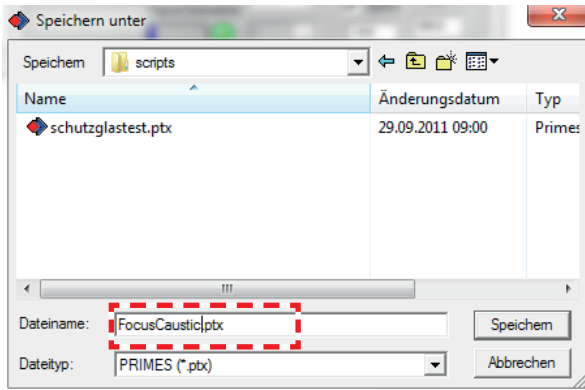
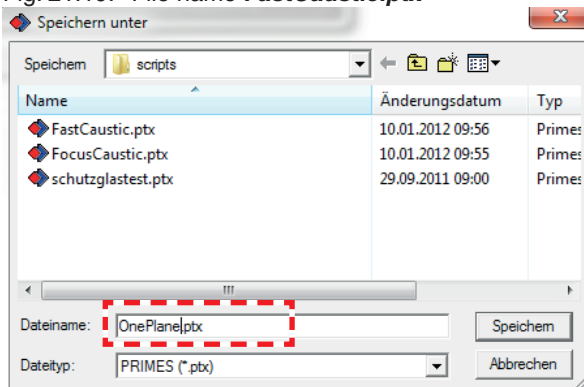

Fig. 21.18: Menu **File>>Save as ...**
Fig. 21.20: File name **One plane.ptx**
3. Choose the directory of the scripts (in this case *c:\Program Files (x86)\Primes\LDS\scripts*) and save the preference files named as shown in Fig. 21.18 on page 57 to Fig. 21.20 on page 57.